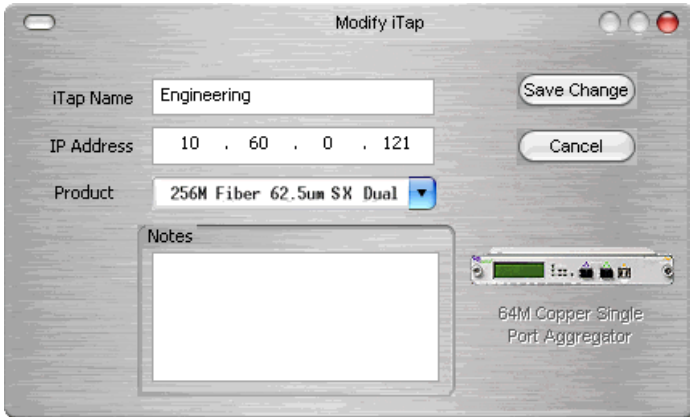

Figure 37: Modify iTap
2. Click **Modify** in the toolbar. The Modify iTap dialog box appears as shown in Figure 37.